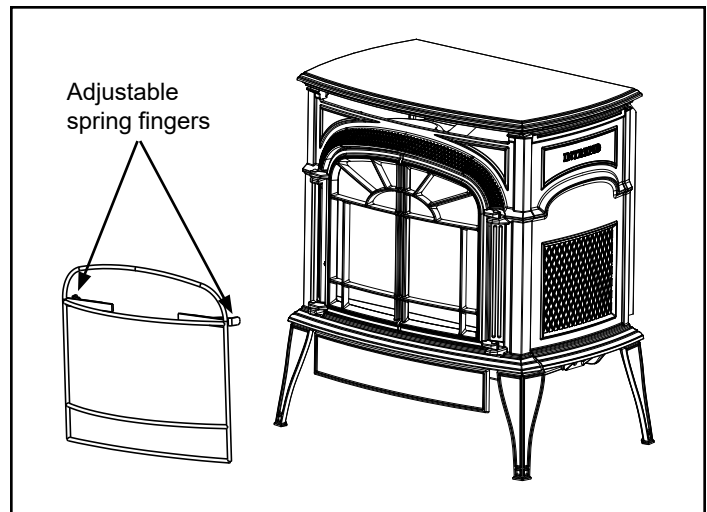

Figure 3.61 - Install safety barrier screen.
2. Place the two bottom hooks over the bottom edge of the stove opening, Figure 3.61.